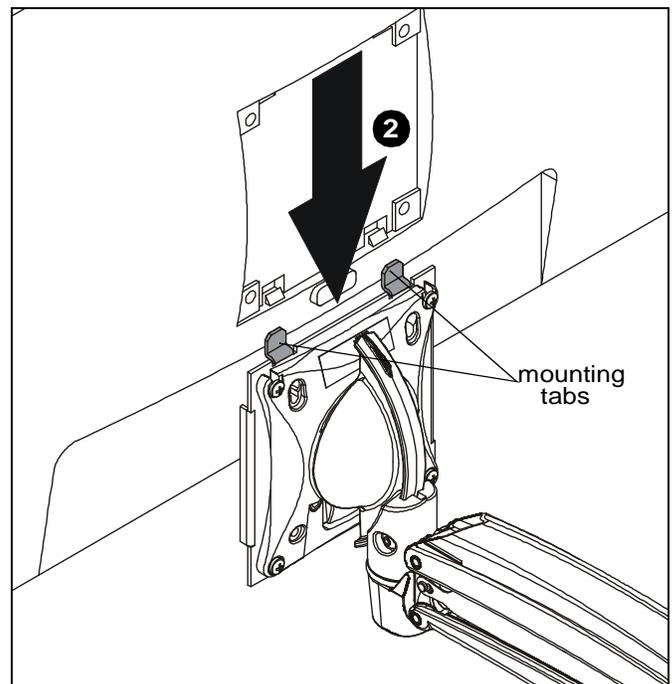

Figure 2
1. Position monitor over mounting tabs on quick-connect bracket (A). (See Figure 2)
2. Lower monitor onto quick-connect bracket, inserting mounting tabs into top two top mounting holes on back of monitor. (See Figure 2)